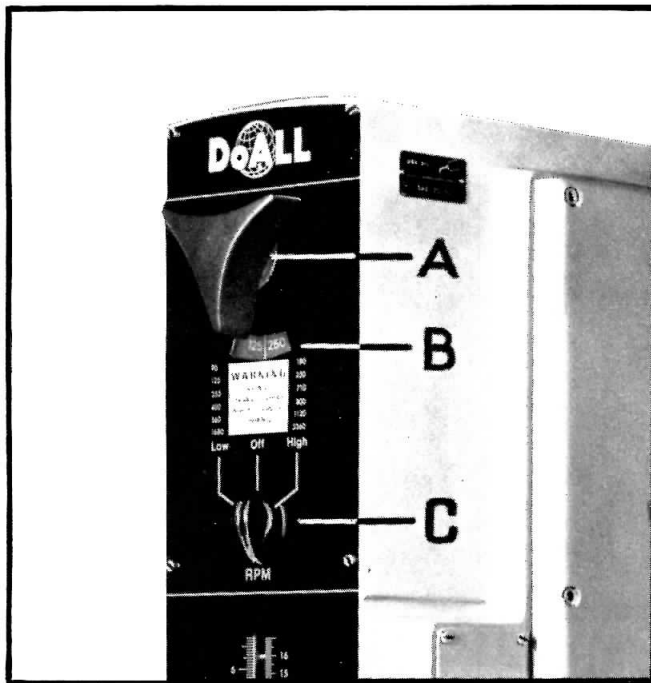

FIG. 5
The spindle speed may be selected by turning the speed selector dial (A) Fig. 5, to the right or left until the desired speed appears on the speed dial (B). When the motor control knob (C) is turned to the LOW position, spindle speeds of 90, 125, 355, 400, 560 and 1680 rpm are available. When the motor control knob is turned to the HIGH position, spindle speeds of 180, 250, 710, 800, 1120, and 3360 rpm are available. CAUTION: NEVER CHANGE SPEED WHILE THE MACHINE IS RUNNING.
E — HEAD RAISING FEED (FIG. 5)